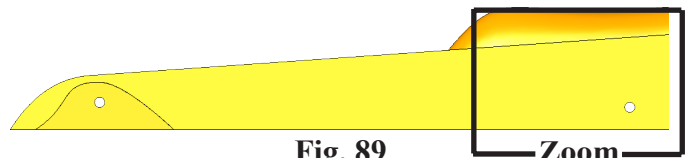

Fig. 89
Step 3. Zoom in around **rear axle hole**, **Fig. 89**. To **zoom**, hold down **Shift key** and drag with middle mouse button (wheel). To **pan**, hold down **Ctrl key** and drag with middle mouse button (wheel).